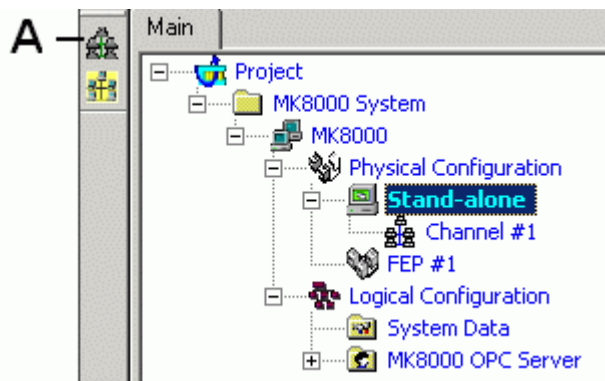

Fig 1 Adding the Video Network Manager (A)
The Fig 1 illustrates how to add the VNM to the configuration:
- Click the button A to add the VNM (see Fig 1).